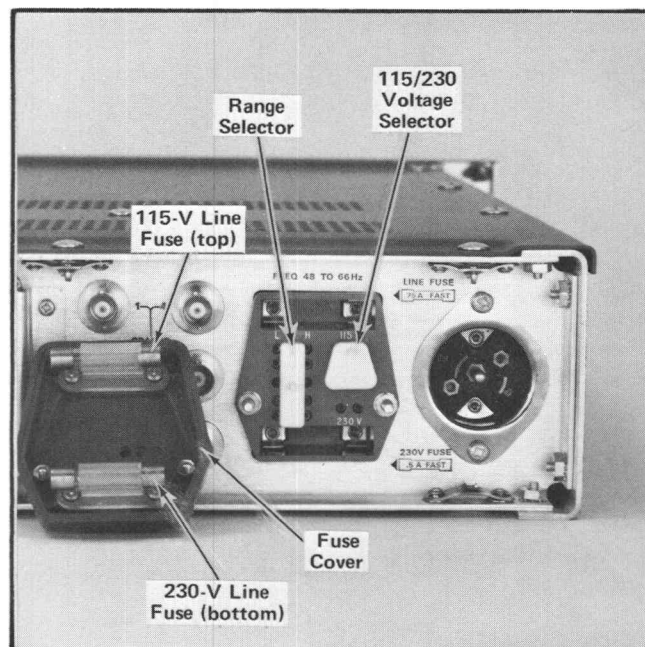

Fig. 2-1. Location of Range and Voltage Selector plugs with fuse cover removed. The plugs as shown are set for 115-V medium range operation.
3. To convert to a different line voltage (115 V to 230 V), pull out the 115/230 Voltage Selector plug (see Fig. 2-1) then rotate the plug 180° and insert it into the opposite set of holes. The 115/230 Voltage Selector plug is located in the upper position for 115-V operation and in the lower position for 230-V operation.
4. To change the line-voltage operating range (LO, M or HI), pull out the Range Selector plug (see Fig. 2-1) and insert it in the desired hole locations. Select a range with a center voltage (see column 3 in Table 2-1) closely corresponding to the line voltage that will be applied in regular instrument operation.